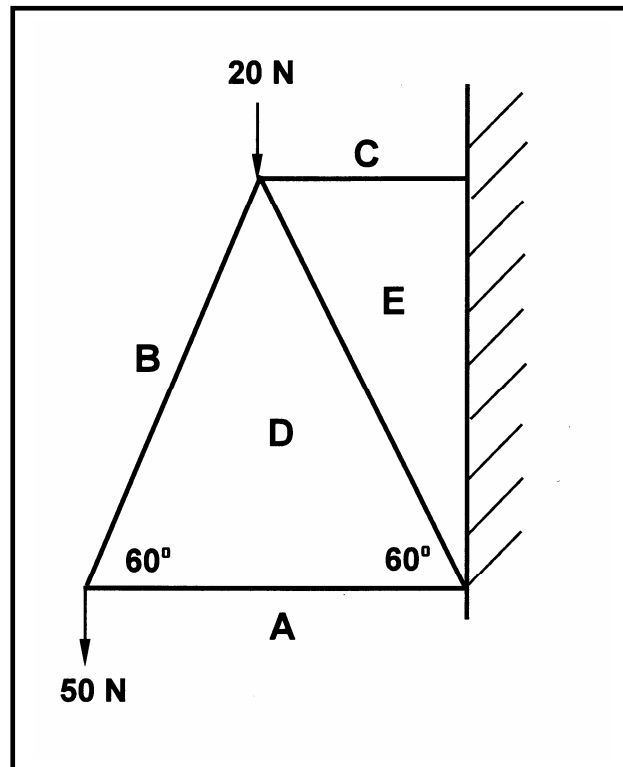

FIGURE 5.1
5.1 FIGURE 5.1 below shows the space diagram of a cantilever roof truss.